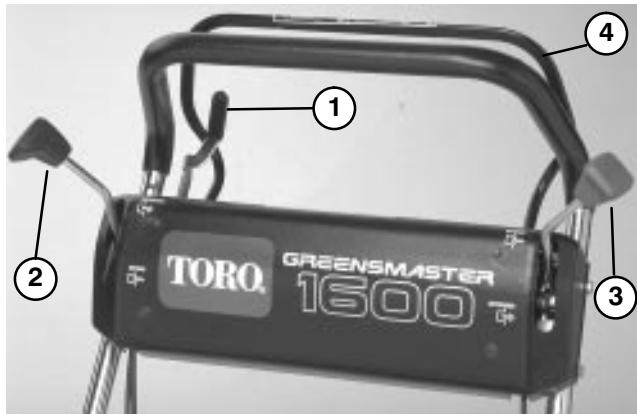
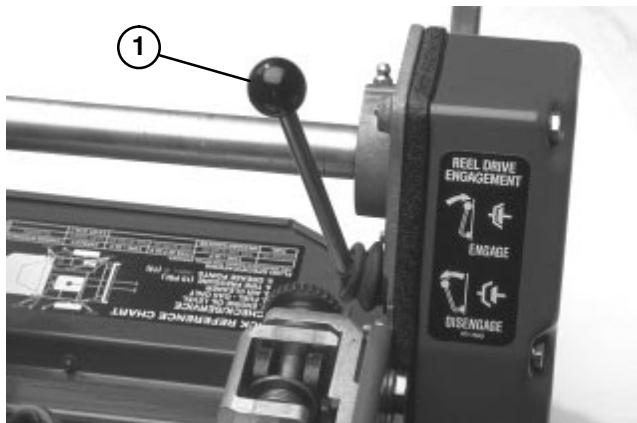

Figure 18
Figure 19
Traction Engagement Lever (Fig. 18) - Located on front right side of control panel. Lever has two positions: NEUTRAL and FORWARD. Pushing lever forward engages traction drive.
Operator Presence Control (Optional) (Fig. 18) - Located on rear of handle. Push control lever forward to engage. Lever must be engaged before engaging traction engagement lever or engine will stop.
Service/Park Brake (Fig. 18) - Located on left front side of control panel. Use brake to slow or stop machine. The brake can also be used as a parking brake. Pulling the lever back over center will set the parking brake.
Throttle Control (Fig. 18) - Located on rear right side of control panel. Lever connects to and operates throttle linkage to carburetor. Engine speed can be varied from 1600 RPM to 3600 RPM.
Reel Drive Engagement Lever (Fig. 19) - Located on right front corner of machine. Lever has two positions: ENGAGE and DISENGAGE. Pull up on lever to engage reel or push down on lever to disengage reel.
1. Make sure traction (Fig. 18) and reel drive (Fig. 19) levers are in DISENGAGED position.
4. Move throttle control (Fig. 18) to FAST position.